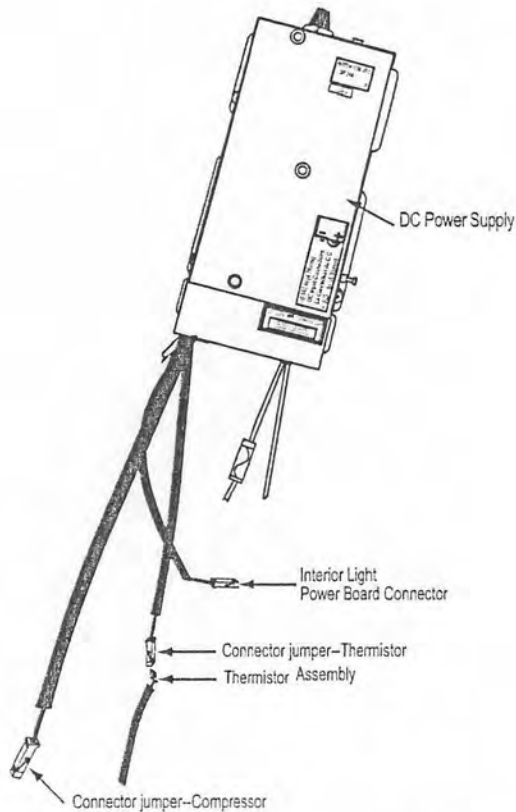

Figure 19. Thermistor connection jumper.
2. Disconnect the thermistor assembly wire from DC power board jumper. See Figure 19.